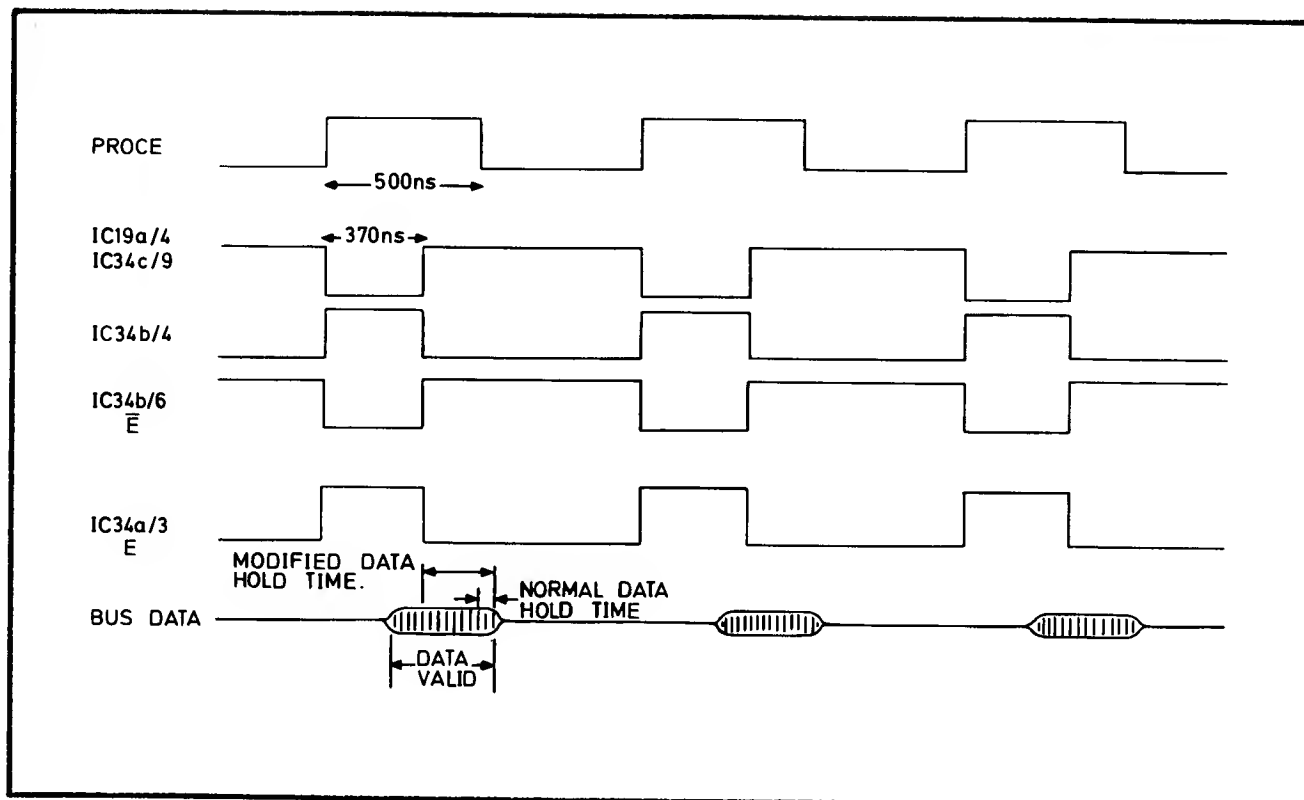

Fig. 6.9 Timing Modification Waveforms - Write Operation
6.5.4.4.7 During microprocessor write operations, IC34c/10 is held at logic '1', and the level at IC34b/4 is governed by the \bar{Q} output of the monostable circuit, IC19a. The operation of the circuit is illustrated in Fig. 6.9. It can be seen that the active (positive-going) edge of the \bar{E} waveform now occurs before the active (negative-going) edge of $PROCE$, and the data hold-time, for which valid data can be read from the bus, is increased.